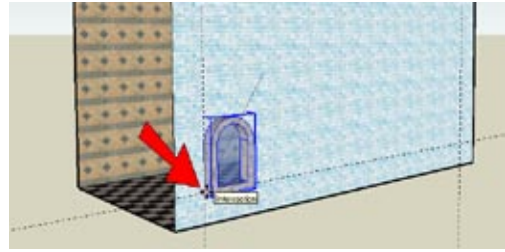

Figure 1-24
- Place this corner at the intersection point of the bottom and left construction lines, as shown in Figure 1-24 (make sure you see the *Intersection* inference, which is a snap point).